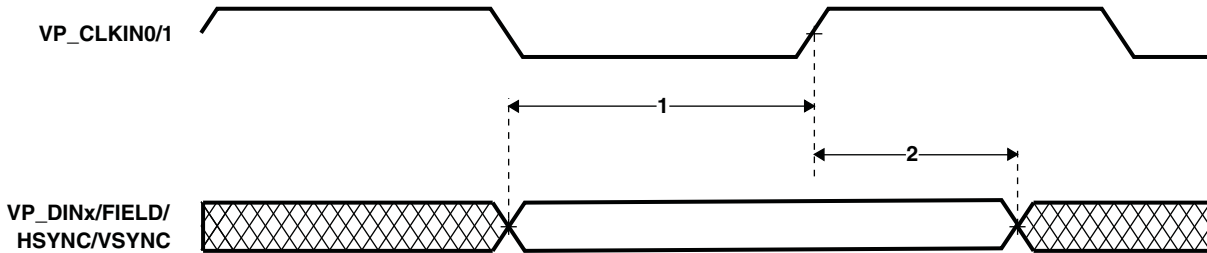

**Figure 5-76. Video Port Capture VP\_CLKINx Timing**
**Table 5-121. Timing Requirements for VPIF VP\_CLKINx Inputs(1)(2) (see Figure 5-76)**